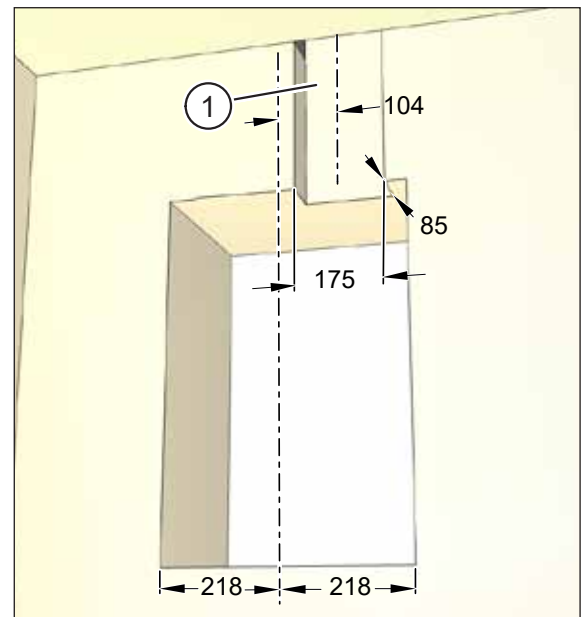

Fig. 15: Creating channels for flexible pipe connection on supply air side, dimensions in millimetres (schematic representation)
- Example: Flexible pipe connection **on the supply air side** (item 1 in Fig. 15)